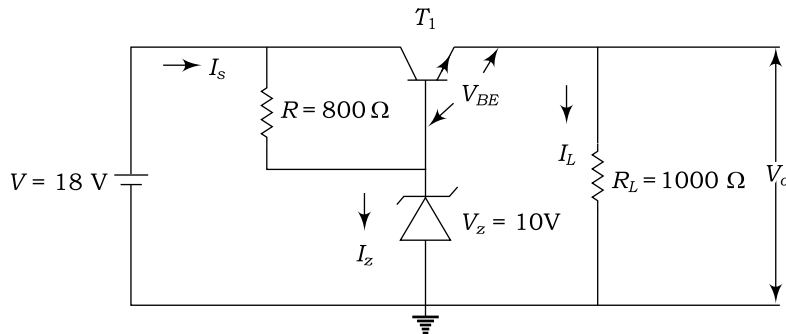

Fig. 1.40
25. A transistor series regulated power supply is shown in Fig. 1.40. Determine (a) the output voltage, (b) load current, and (c) zener current. Assume zener resistance is equal to zero, and $V_{BE} = 0.7$ V.